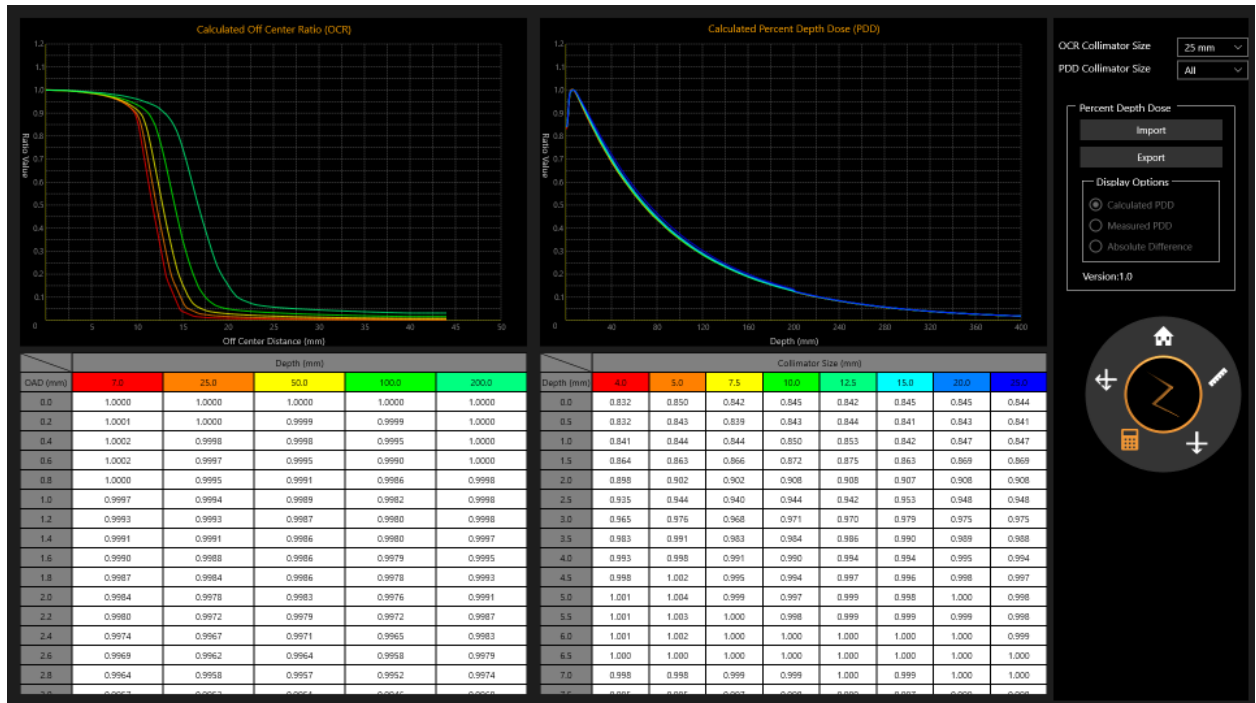

Figure 10.11: 1-Beam Review
4. Review the Calculated Off-Center Ratio (OCR) (see Figure 10-11).